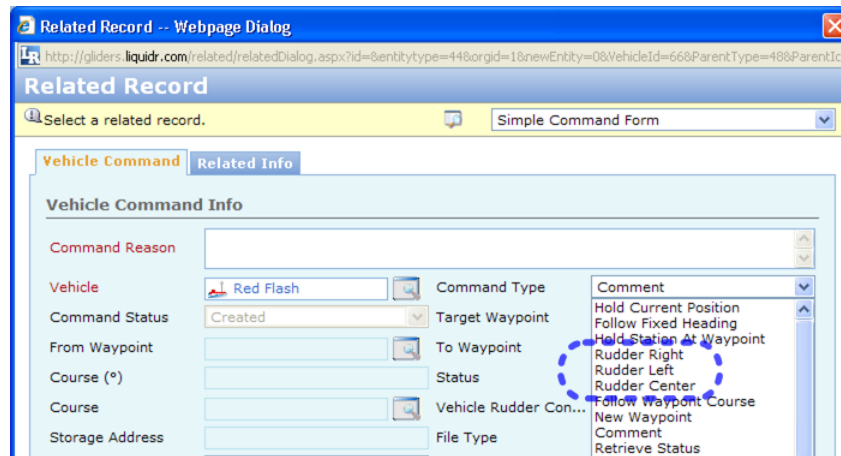

Figure 5-62: Rudder Position Selection:
- 1) Use the "Command Type" pull-down list to select one of the rudder position commands, as shown in Figure 5-62.